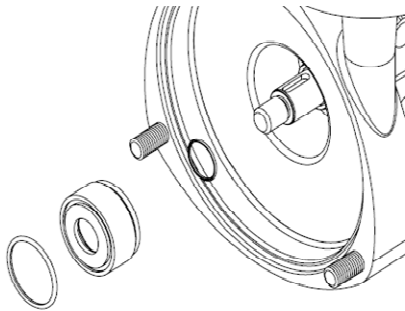

Figure 12
4. Install inner seal driver o-ring, then slide the rotating seal assembly onto the stub shaft, as seen in Figure 12, against the stationary seal. Be sure the outer seal driver o-ring is in the o-ring groove in the seal driver.